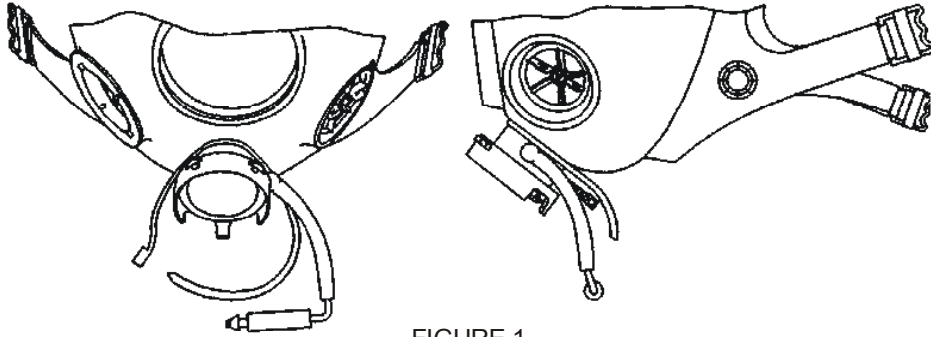

FIGURE 1
2. Place retaining clamp behind connection of external drink tube as shown in FIGURE 1. Note, the ridged side of the clamp should face inward.